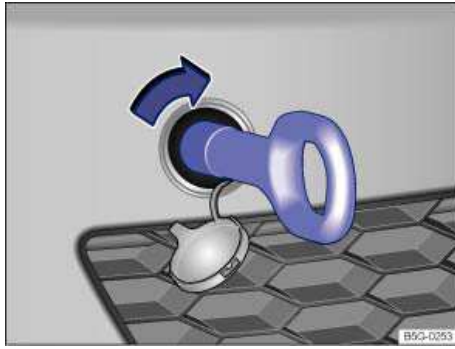

Fig. 189 In the right front bumper: Screwing in the towing eye.
There is a threaded hole for the towing eye in the right front bumper ⇒ fig. 189.
- Screw the towing eye **clockwise** into the threaded hole as far as it will go (arrow) ⇒ fig. 189 ⇒ ⚠